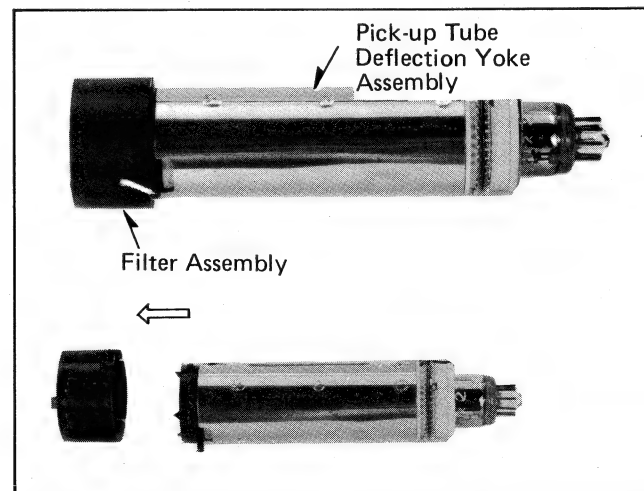

Fig. 9
- 3-8. Remove the pick-up tube D.Y. assembly with the filter assembly (see Fig. 9).